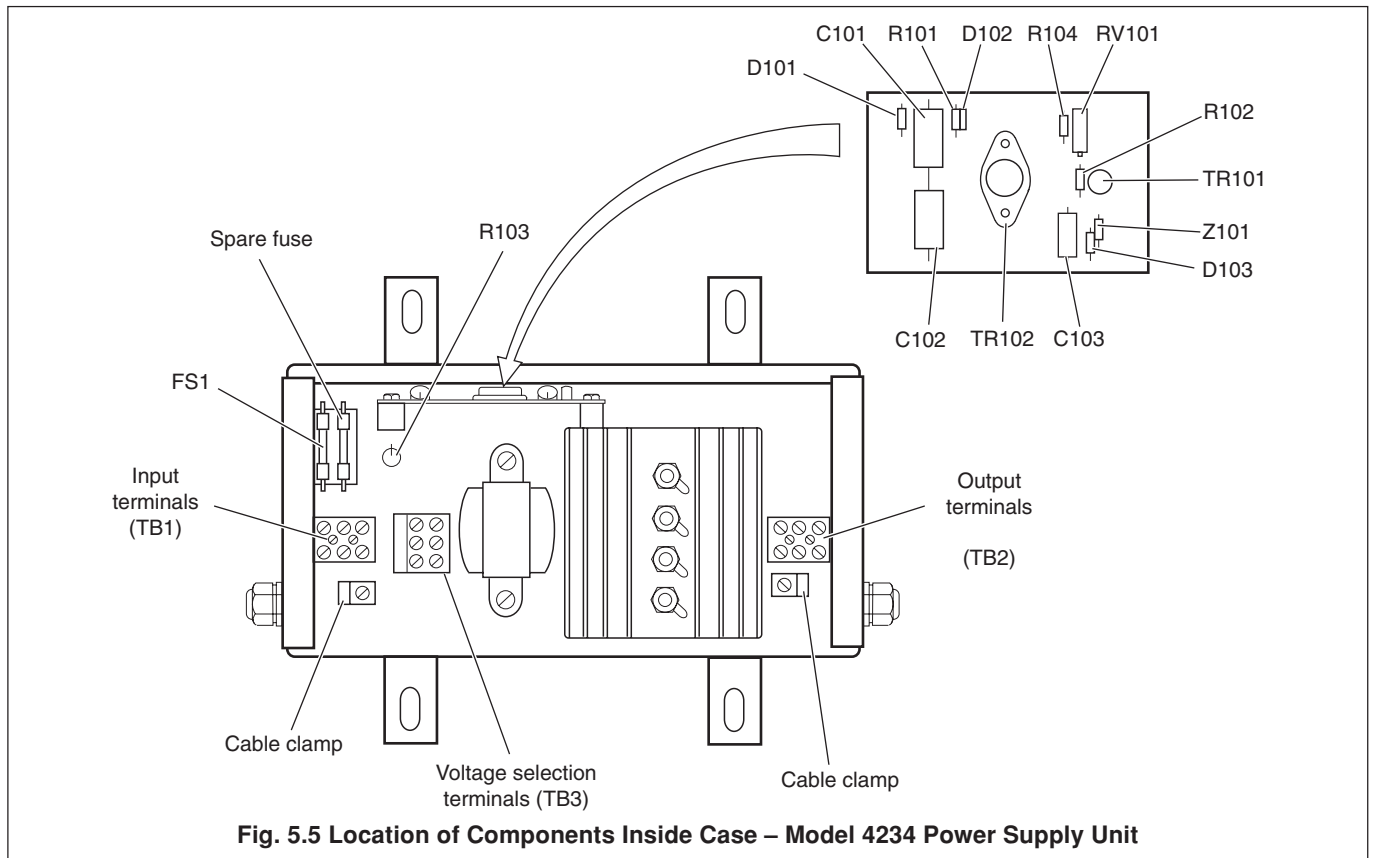

Fig. 5.5 Location of Components Inside Case – Model 4234 Power Supply Unit
5.1.3 Model 4234 Power Supply Unit – Fig. 5.5